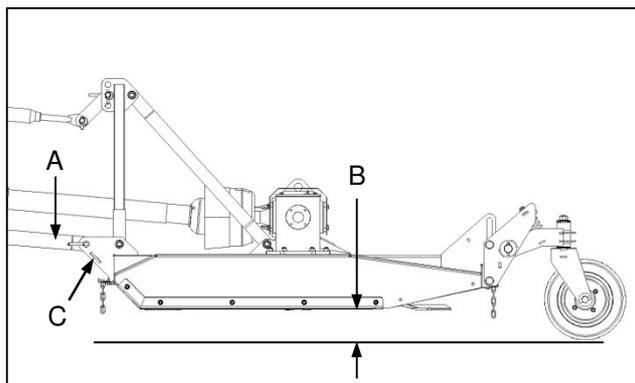

Fig. 7
- ✔ In the working position, the front of the implement is supported on the tractor 3-point hitch. To level the implement, set the lower link arm positions (Fig. 7-A) such that the implement is parallel to the ground (Fig. 7-B).
- ✔ Note that additional lugs (Fig. 7-C) are provided for the attachment of check-chains in cases where the tractor lower hitch position is unreliable or prone to sagging. Check chains of the required length (ideally adjustable)
- ✔ In die werksposisie word die voorkant van die implement deur die trekker se 3-punt-haak gesteun. Om die implement waterpas te maak, stel die onderste koppelarmposisies (Fig. 7-A) so dat die implement parallel met die grond is (Fig. 7-B).
- ✔ Let op dat bykomende aanhaakpunte (Fig. 7-C) vir die aanheg van keerkettings voorsien word vir gevalle waar die trekker se 3-punt-haak onbetroubaar is of dalk kan sak. Keerkettings van die vereiste lengte (verkieklik